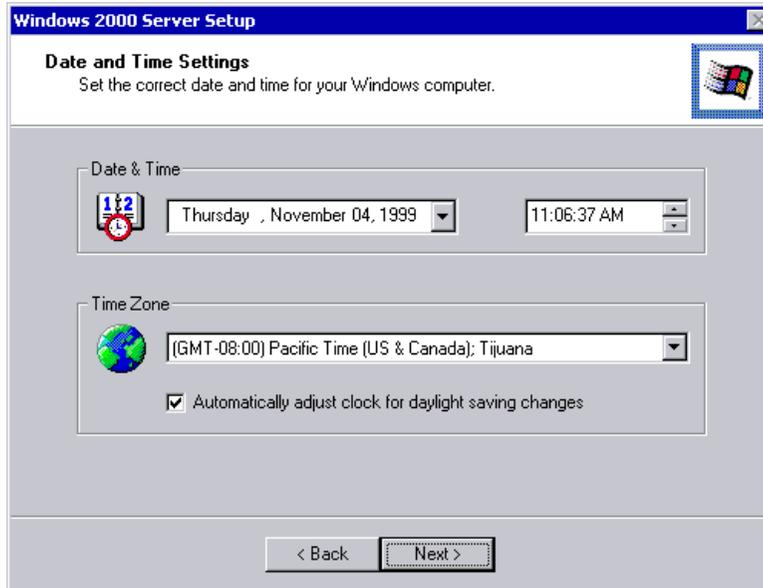

Figure 58. Date and time settings
14. Figure 58 prompts you to confirm the current date and time settings: